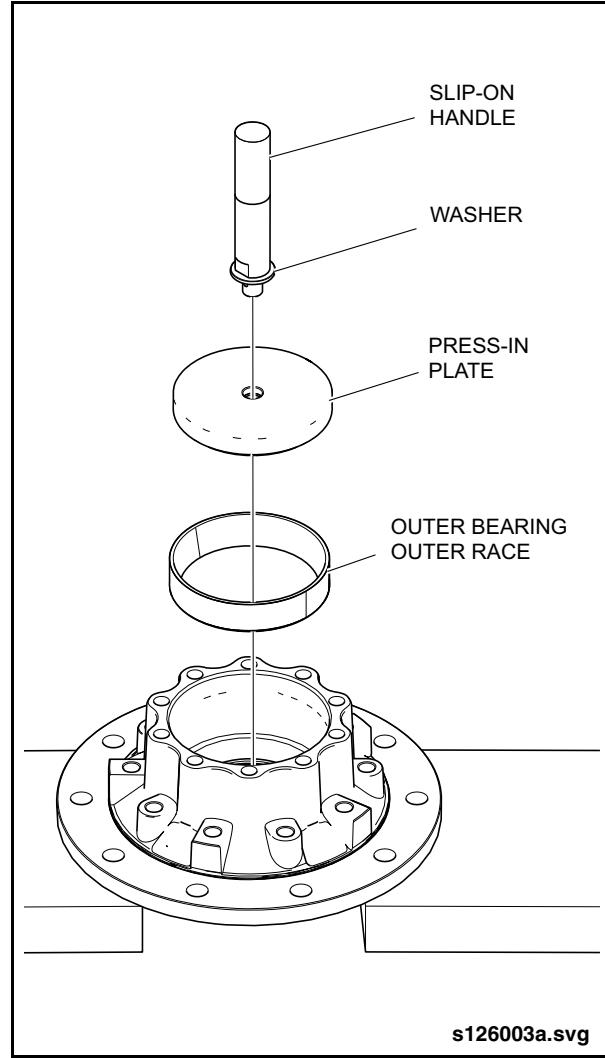

Fig. 2-26: Installing Outer Bearing Outer Race
3. Press in the bearing outer race as far as the stop with the cone facing outwards. See “Fig. 2-26: Installing Outer Bearing Outer Race” on page 28.